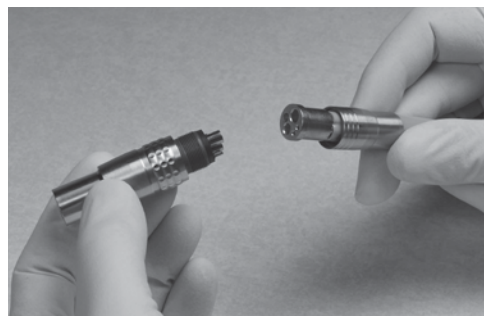

Fig. 1
1. Install quick connect coupling adaptor to tubing end by aligning the tubes at the back end of the coupling with the corresponding holes in the hose connector. Insert the coupling into the hose connector and tighten the hose nut by turning it clockwise as shown in **Fig. 1**.